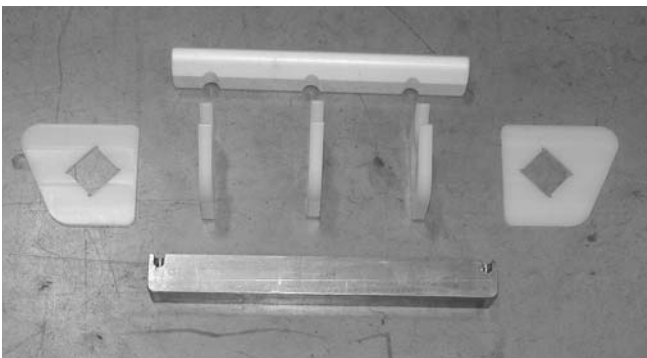

Figure 86
- Replace pucks and tracking pucks if worn (**Figure 86**).